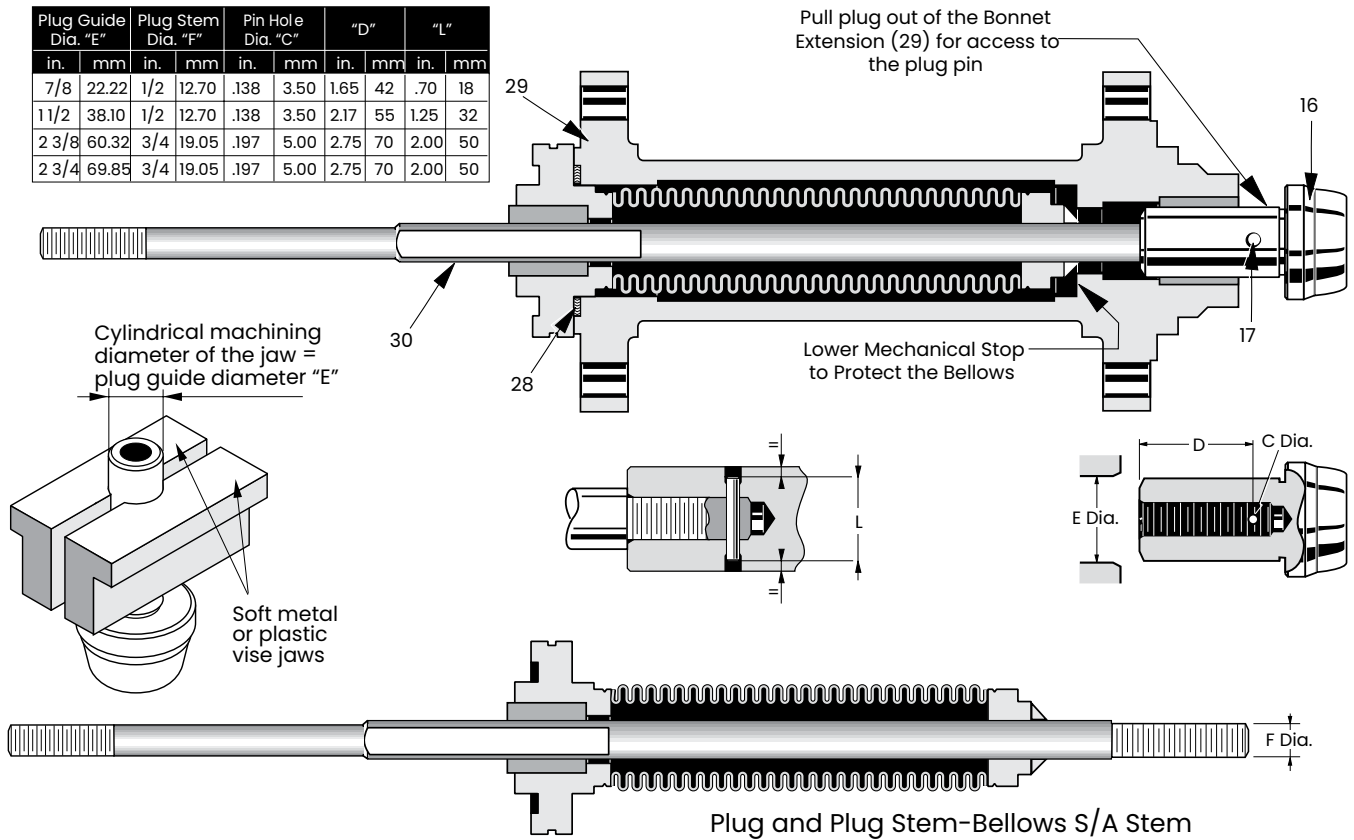

Figure 18 - Unpinning and Pinning of the Plug to Stem
Note: Always use soft metal vise jaws to hold the plug guide surface. Failure to take this precaution could result in damage to the plug guide surface during pinning (see Figure 18).
- Lock two nuts against each other on the end of the plug stem and use a flat spanner on the upper nut to prevent rotation of the stem-bellows S/A. Screw the plug onto the lower part of the stem while inserting the plug shank into the guide bushing (12) in the bonnet extension (29).
- Pull and hold the plug (16) out of the bonnet extension (29) to allow access to the plug pin (17).
- **If the plug is already fully drilled**, (typical for 440C hardened stainless steel material or solid Stellite or Equivalent), then drill the stem to the same diameter (Diameter C in Figure 18) as the Plug Shank Hole.
- Match Diameter C (see Figure 18),
- Measure Dimension D based on the plug guide diameter and stem diameter (see Figure 18).
- Select the correct size pin based on the plug guide diameter and stem diameter (see Figure 18). Apply a small amount of grease on the pin and hand-assemble it into the hole in the plug.
- Press fit the pin into the hole using a hammer. Complete the pinning operation by ensuring that the pin is recessed by the same amount from both sides (see Figure 18).